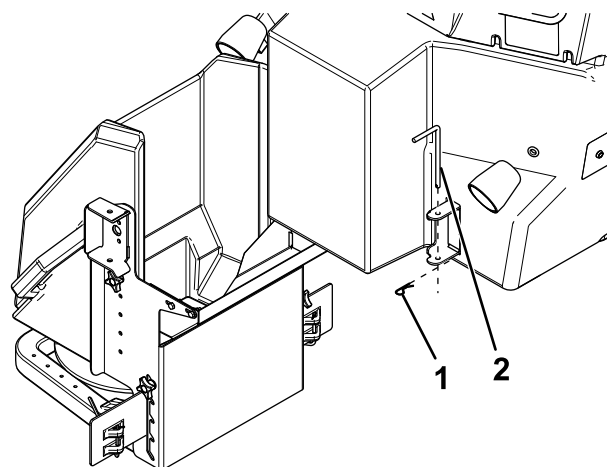

Figure 53
- Swing the spreader spinner assembly free from the hopper opening (Figure 53).
- Remove the right latch and cotter pin from the spreader spinner assembly (Figure 53).